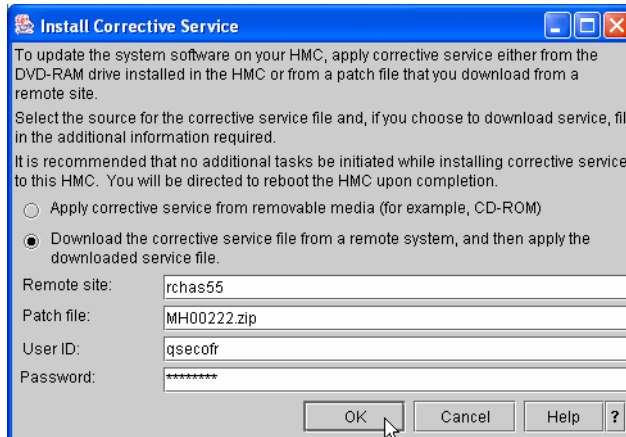

Figure 14-23 HMC fix install screen
- **Password** - The user profiles password used to connect to the remote systemIn our example we enter the information (also shown in Figure 14-23):